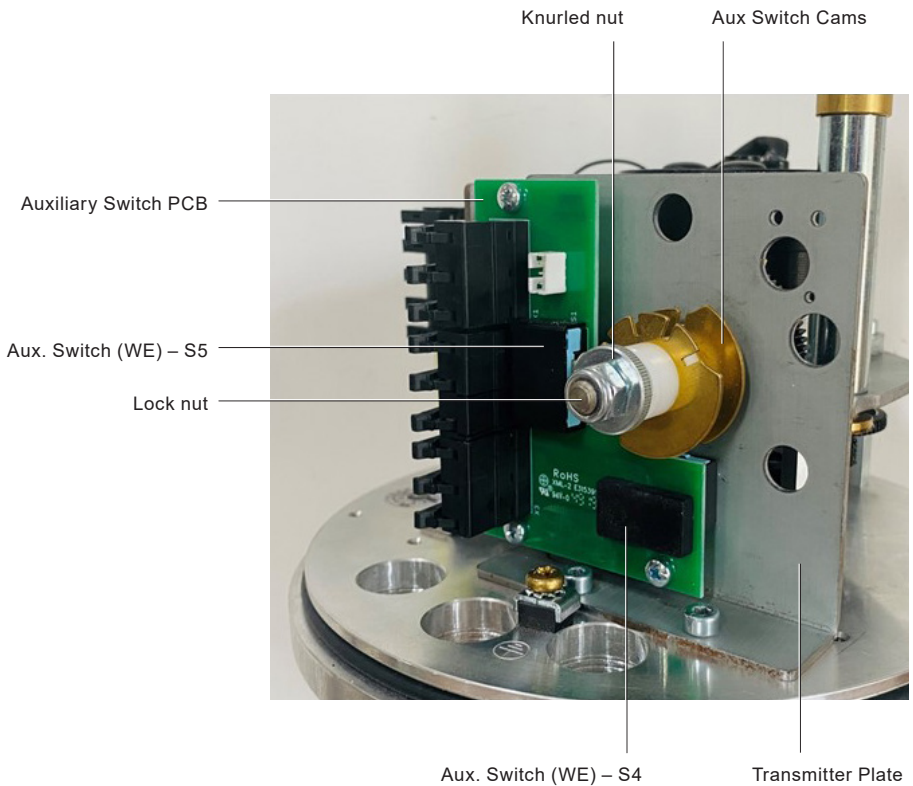

Fig. 9 Auxiliary Travel Switch (WE) Arrangement (1-6 kN [225-1,349 lbf])
- Assemble the transmitter plate complete with auxiliary travel switches to the actuator base plate. See Figure 9 "Auxiliary Travel Switch Arrangement (1-6 kN [225-1,349 lbf])" for product orientation